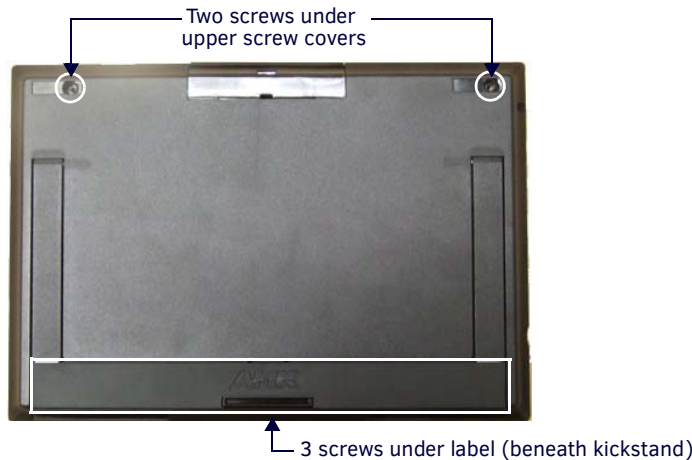

FIG. 120 Placement of screws on the back of the MVP-9000i
5. Remove the five screws from the back of the device (FIG. 120).